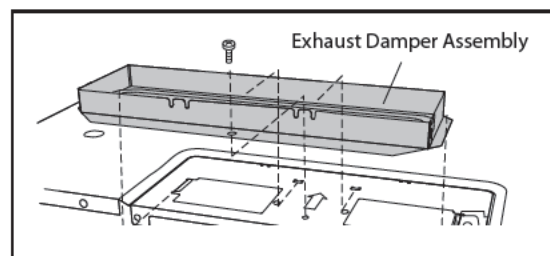

Figure 16
6. Attach the Exhaust Damper Assembly to the fan cover on the top of the outer case cabinet by sliding it into the slits in the same direction as the arrow. Use 1 Tapping Screw 4 x 12 mm from the INSTALLATION HARDWARE and tighten into place. See Figure 16.